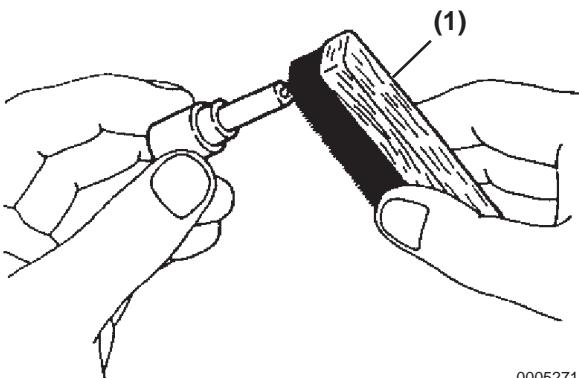

Figure 6-20
3. *NOTICE: Wash all parts with clean diesel fuel. NEVER touch the nozzle mating surfaces with bare hands.* Remove carbon deposits from the outside surface of nozzle body using a soft brass brush, except the lapped surface (**Figure 6-20, (1)**).